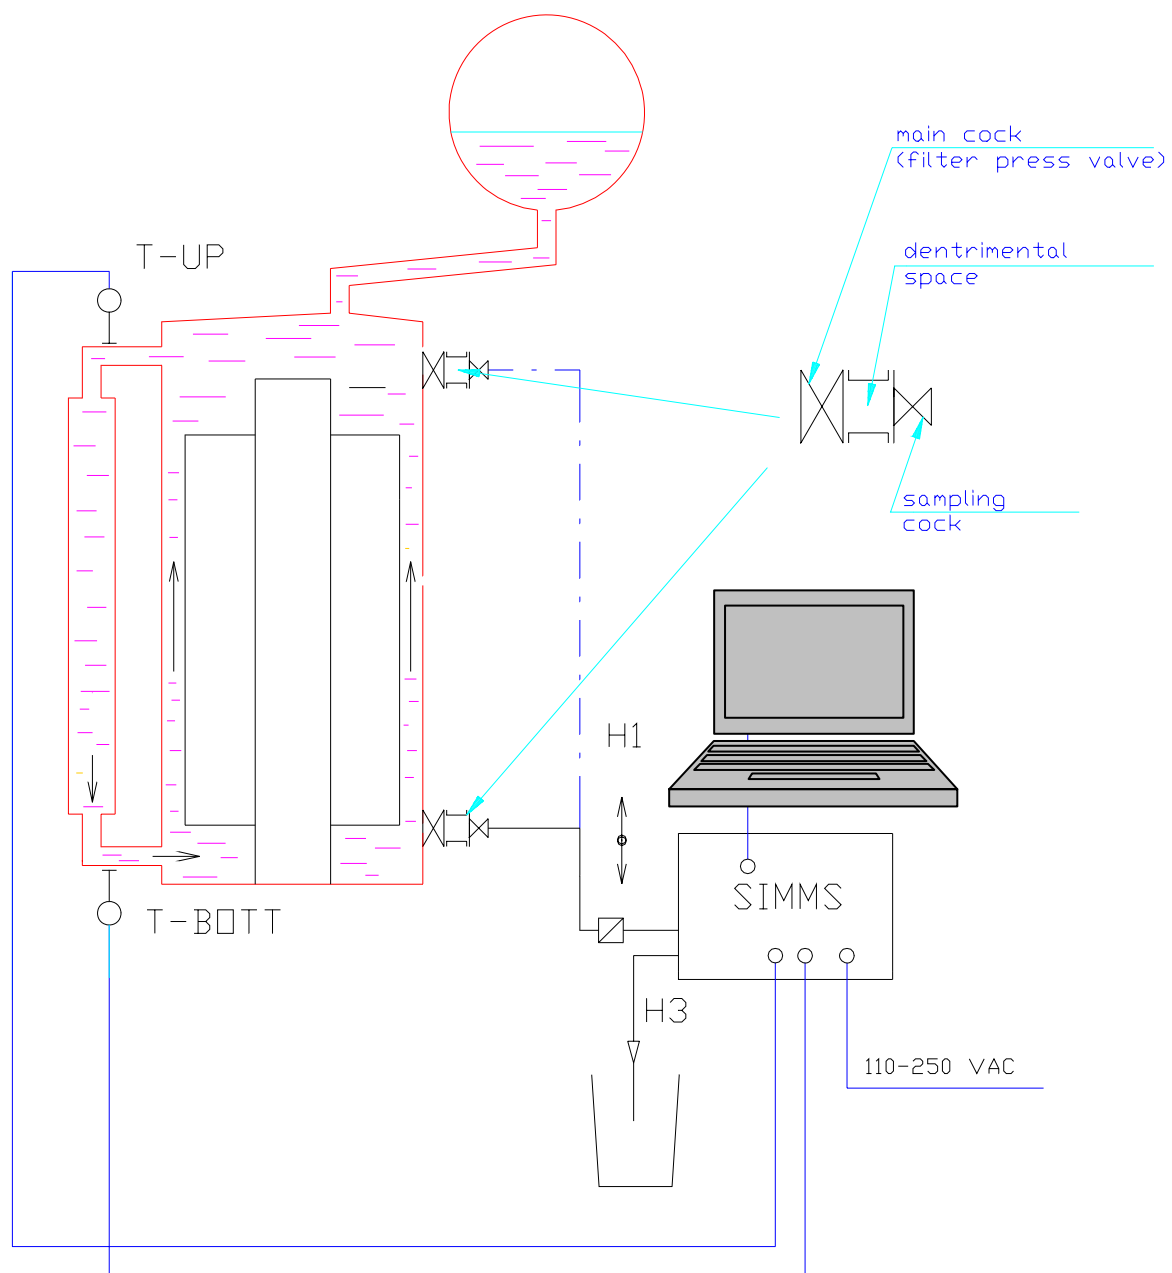

Fig. 3 Connection Diagram **SIMMS 1P**
- if sampling points are not directly connected to the oil inventory (between the sampling point and the oil inventory exists a detrimental space corresponding e.g. space between the slider and the blind flange of the filter press valve – See Fig. 3 - always use full procedure 3.4 or 3.5, which allows the evacuation of the corresponding detrimental space.
**4.4 SIMMS – 1P (one-point Installation) - See Fig.3**
Opening of the **sampling cock** (See Fig.3) interconnects the SIMMS with the potential **detrimental space** between the **main cock** and the **sampling cock** .